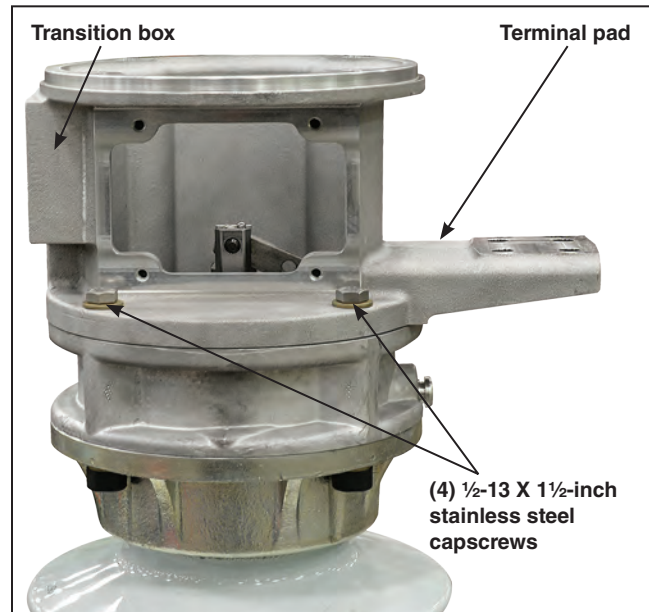

Figure 10. Terminal pad orientation can be rotated 180 degrees.
STEP 8. Note the direction of the lower terminal pad on each insulating support column. See the catalog drawing. See Figure 10. If the alternate terminal-pad position is desired, remove the $\frac{1}{2}$ -13 \times 1 $\frac{1}{2}$ hex-head stainless steel cap screws and flat washers used to attach the transition box to the insulating support column. Turn the transition box 180 degrees, then replace and securely tighten the $\frac{1}{2}$ -13 \times 1 $\frac{1}{2}$ cap screws.